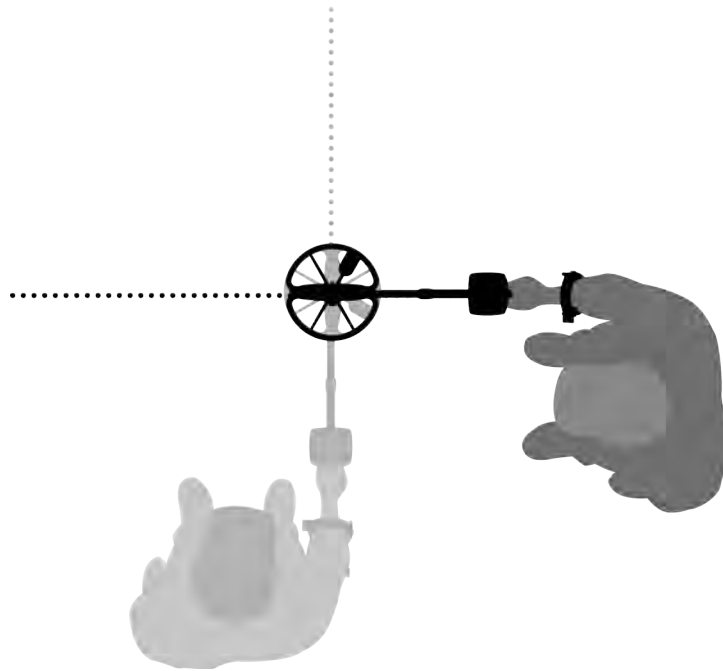

Figure 22 – Pinpointing the target
4. Move to one side so that you can pass the coil over the target at right angles to your initial direction (*Figure 22*).